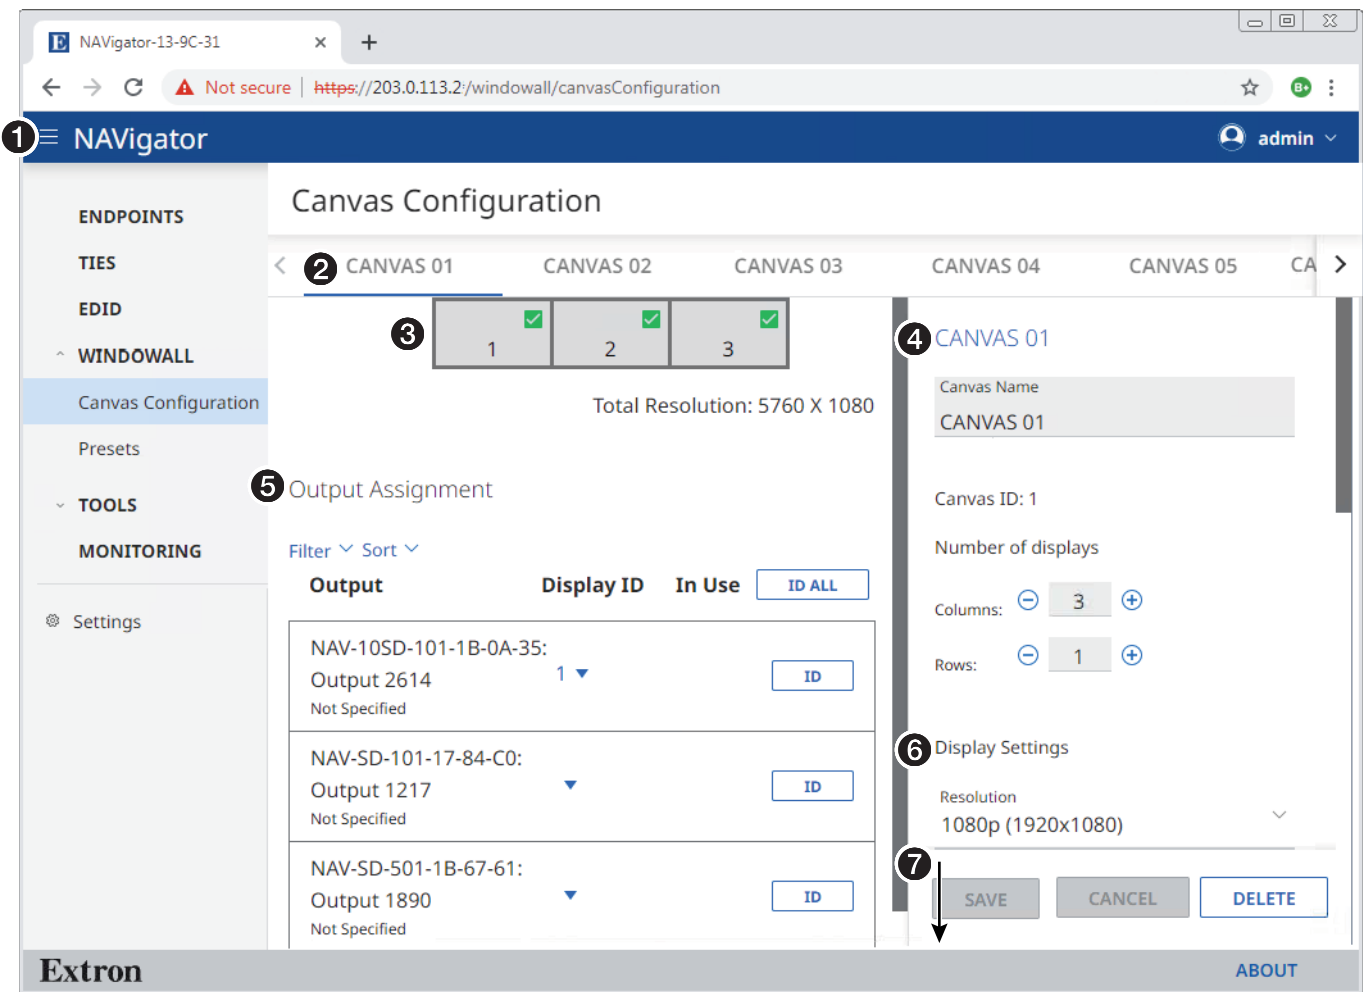

Figure 14. Canvas Configuration Page
The *windoWall* pages provide tools to configure *canvases* and to save, apply, and clear NAV WindoWall presets. To open the NAV *windoWall* pages, if necessary, click the **Menu** icon (see figure 14, ❶). Click **WINDO WALL** (see ❶ in the illustration at right) and either **Canvas Configuration** (❷) or **Presets** (❸).
- ❶ WINDO WALL
- ❷ Canvas Configuration
- ❸ Presets
The *Canvas Configuration* page (see figure 14) provides tools to assign decoders to NAV WindoWall canvases. See WindoWall pages on page 62 for a detailed description of using this page and Creating presets on page 67 to create NAV WindoWalls and presets.
- ❷ **Canvas selection tabs** — Select a canvas to configure.
- ❸ **Canvas View** — A grid diagram in which each cell represents a display in the NAV WindoWall and which can include the display number (displays are numbered horizontally on the canvas view), the decoder, and the total output resolution.
- ❹ **Canvas Configuration** — Provide the Canvas ID (for identification to a control system), define the size of the canvas, and assign it a name.
- 5 **Output Assignments** (see figure 14 on page 16) — Assign decoders to the displays in the NAV WindoWall.
- 7 **Mullion Compensation** (off-screen on figure 14, see figure 66 on page 66) — Adjust the space around displays to extend the image "behind" the bezels of flat panels.